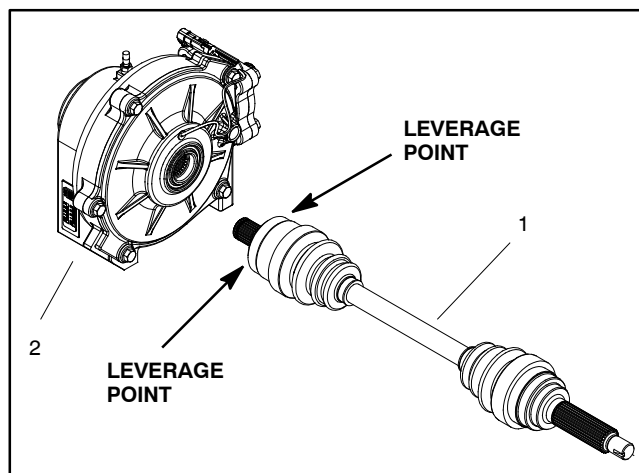

Figure 2
6. Use two small pry bars (180° apart) to leverage the CV axle out of the differential. Use even pressure on both pry bars (Fig. 2).